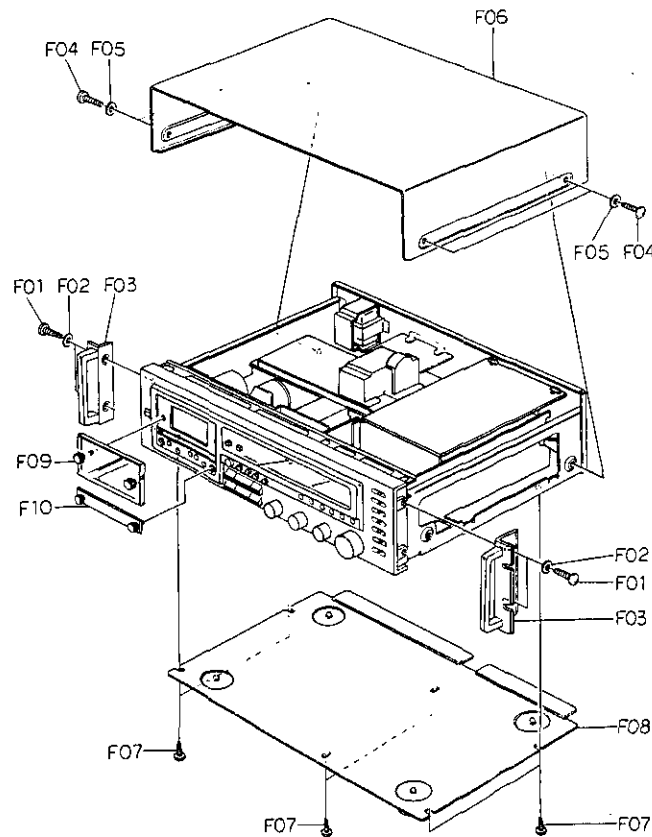

Fig. 2.1
- (1) Refer to Fig. 2.1. Remove Top Cover Ass'y and Bottom Cover Ass'y referring to items 2.2 and 2.3.
- (2) Remove F01, F02 and F03, then disassemble F04 (Rear Panel Ass'y).
- (2) Remove F05 and F06, then disassemble F07 (Power Transformer).
- (3) Remove F08 and F09, then disassemble F10 (Fuse P.C.B. Ass'y).
Refer to Fig. 2.1.
- (2) Remove F01, then disassemble F02 (Dolby NR P.C.B. Ass'y).
- (3) Remove F03, then turn F04 (Auto Level P.C.B. Ass'y) over as an arrow head.
- (4) Pull out F05 (Volume Knob A), F06 (Volume Knob B) and F07 (Pitch Control Knob).
- (5) Remove F08, F09 and F10, then disassemble F11 (Front Panel Ass'y including 3 connectors).